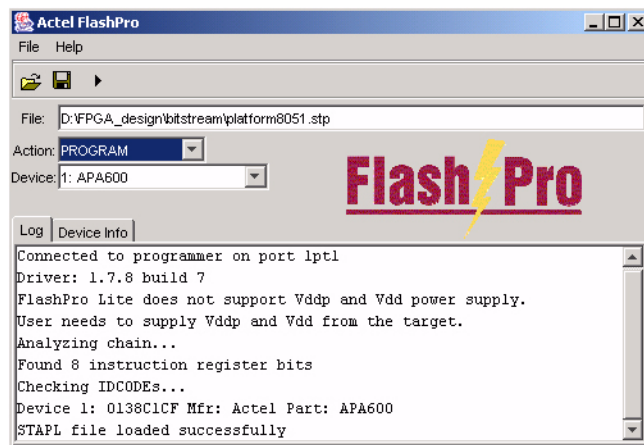

Figure 4-4. FlashPro, Connected, Chain Established, Ready to Program
8. In the main FlashPro window, set the *Action* field to *Program* (Figure 4-4).